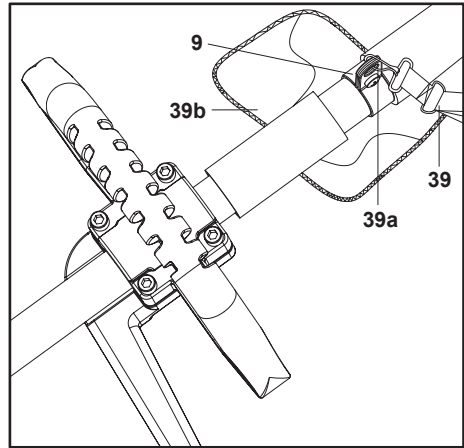

Fig. 26
5. Lock the harness (39) on the hanging hook (9). Make sure the protection pad (39b) runs under the upper pole (Fig. 26).